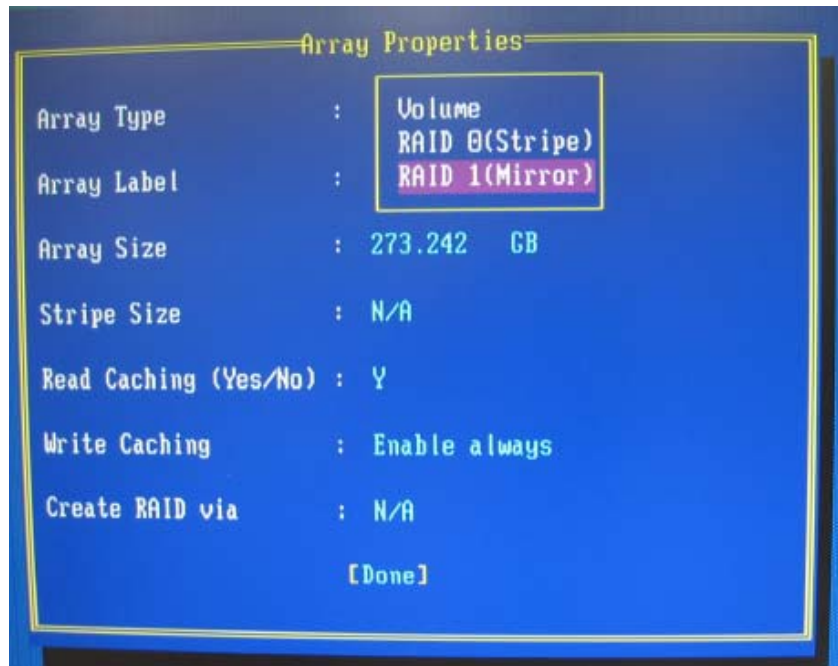

Figure 6-6 Highlight RAID
3. Highlight **RAID 1(Mirror)** press **Enter**. (Figure 6-6)